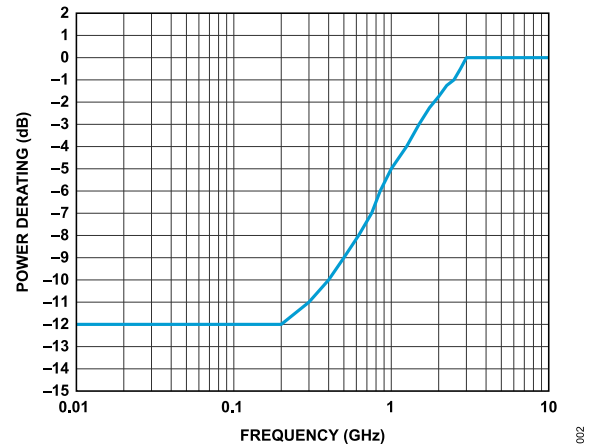

Figure 2. Power Derating vs. Frequency, Low-Frequency Detail,  $T_{CASE} = 85^{\circ}\text{C}$ .
- For power derating over frequency, see Figure 2.
The power handling of the ADRF5032 derates with frequencies below 3 GHz. See Figure 2 for derating of the RF power towards lower frequencies.